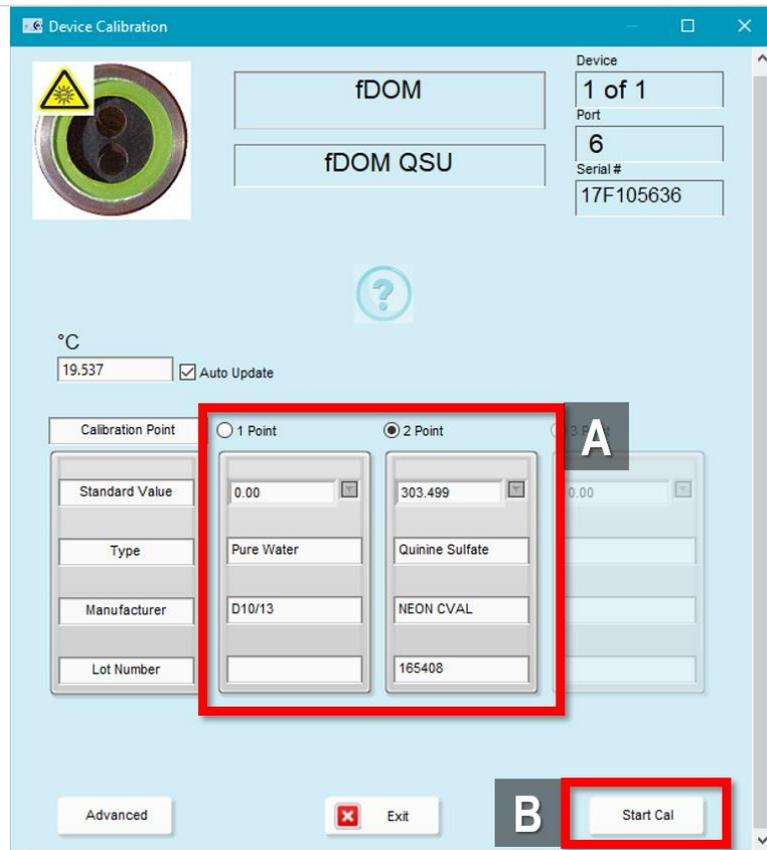

Figure 113. Parameters for a 2-Point Calibration for fDOM
**STEP 2** | In the KorEXO software, select the port with the fDOM sensor probe in the Calibration Menu. Input the following information for a 2-point calibration process (A in Figure 113):
Then click “Start Cal” (B in Figure 113).